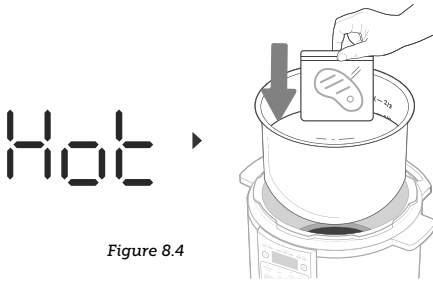

Figure 8.4
9. When the display says '**HOT**', remove the lid and carefully submerge the food in the inner pot. [Figure 8.4]